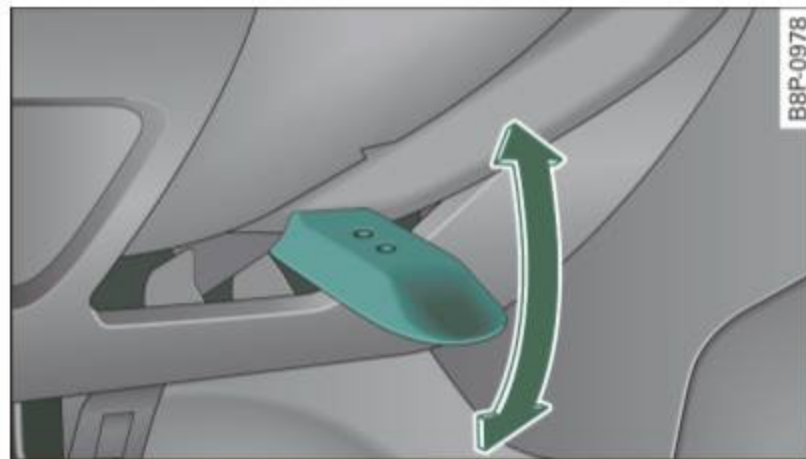

Fig. 132 Lever under the steering column
- Push the lever ⇒ fig. 132 down as far as it will go ⇒ ⚠.